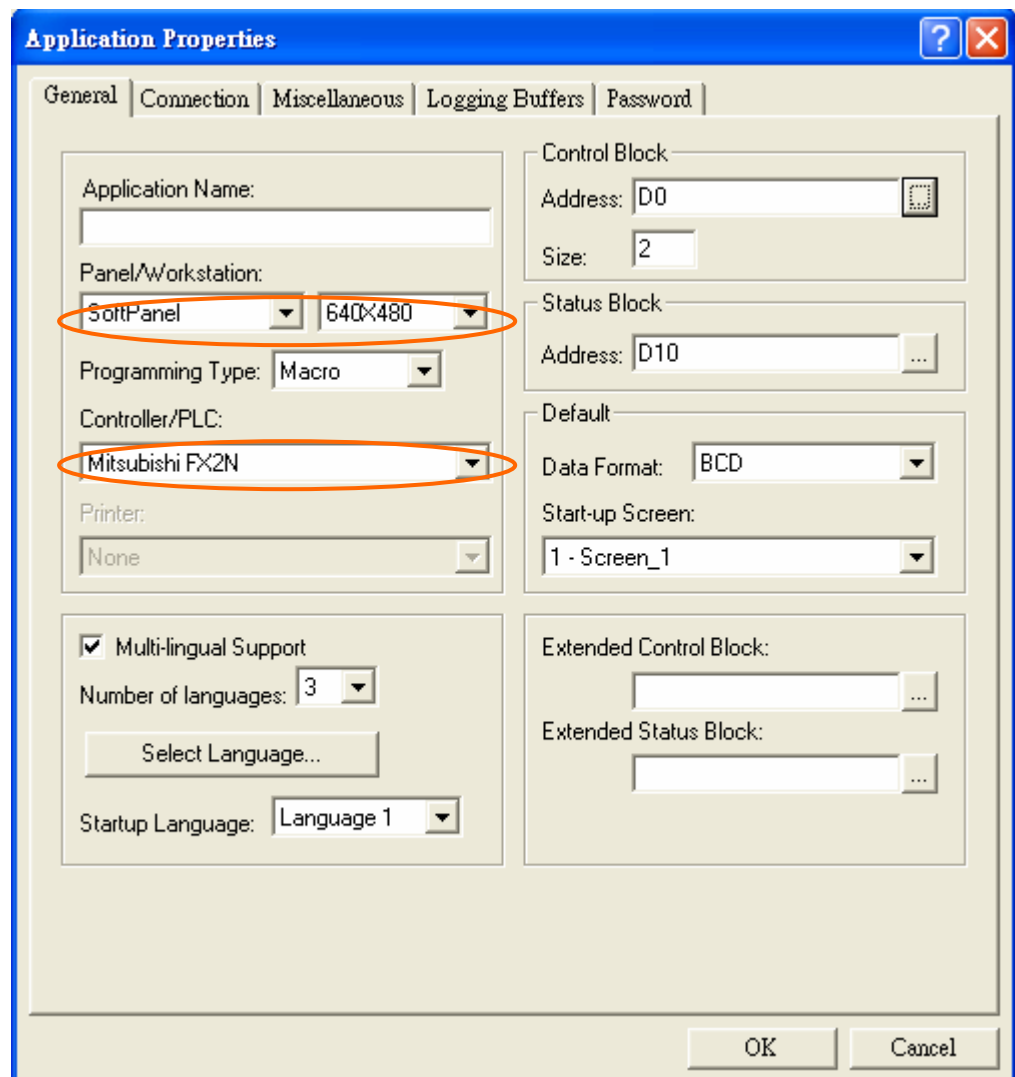

Figure 218. Select “SoftPanel” and the Type of PLC
1. Select [Application]/[Workstation Setup]. On the [General] tab, select SoftPanel from the [Panel/Workstation] list. See Figure 218 .
2. Select the type of PLC from the [Controller/PLC] list. See Figure 218.